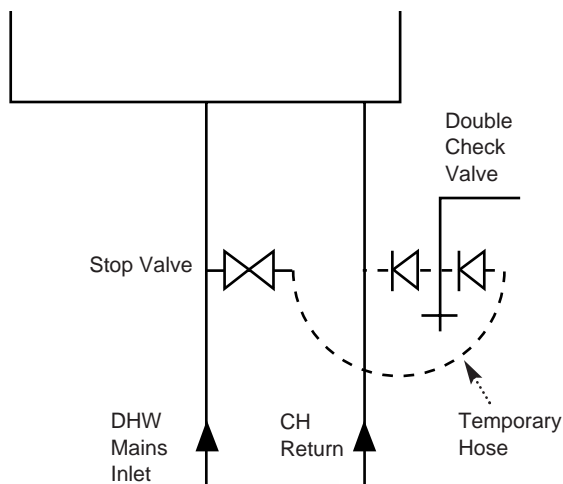

Fig. 4
4. The sealed primary circuits may be filled or replenished by means of a temporary connection between the circuit and a supply pipe, provided a 'Listed' double check valve or some other no less effective backflow prevention device is permanently connected at the inlet to the circuit and the temporary connection is removed after use (Fig. 4).